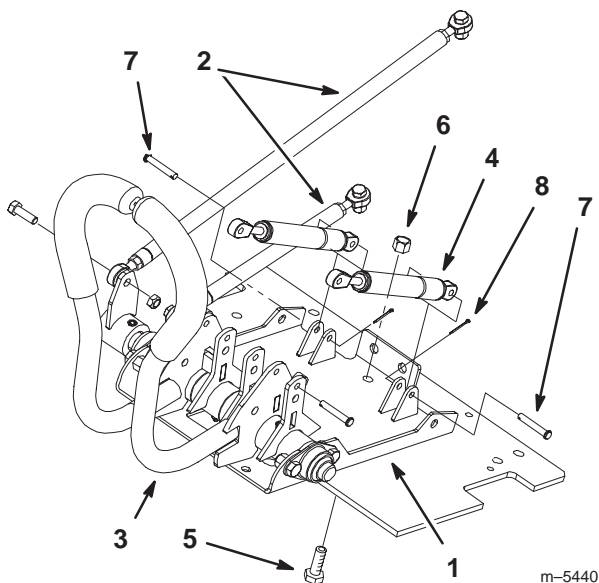

Figure 2
1. Disconnect the left and right control rods from the motion control levers (Fig. 2).
2. Remove the old dampers from the bracket and motion control levers (Fig. 2).
3. Remove the three bolts that hold the bracket to the machine frame (Fig. 2).